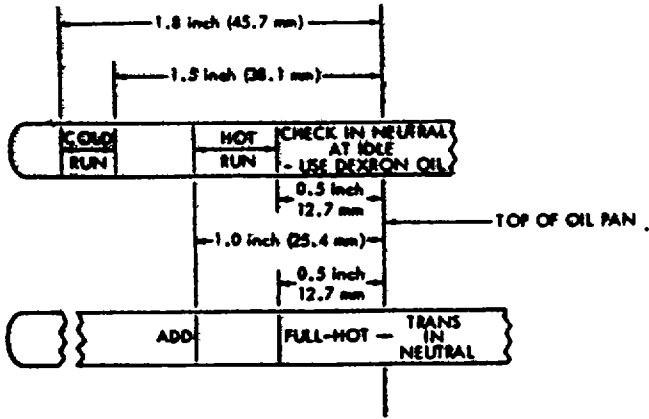

Fig. 3-1. Dipstick markings (AT 545)
(1) Earlier models use a dipstick marked FULL and ADD (fig. 3-1). Later models use a dipstick marked COLD RUN
(3) Cold Check. Run the engine until the oil temperature reaches 60-120°F (16-49°C). With the engine idling and the transmission in neutral, wipe the dipstick clean and check the oil level. If the oil level registers in the COLD RUN band, the quantity of oil in the transmission is operating temperature (160-200°F; 71-93°C) is reached. (Refer to fig. 3-1 for dipstick markings.) If the oil level registers on or below the bottom line of the COLD RUN band, add oil to bring the level within the band. If the oil level registers above the COLD RUN band, drain oil to bring the level within the band. Then operate the vehicle and make a Hot Check when normal operating temperature is reached.
mission in neutral, wipe the dipstick clean and check the oil level. If the oil level registers in the HOT RUN band or between ADD and FULL, the oil level is satisfactory to continue operation of the vehicle. (Refer to fig. 3-1 for dipstick markings.) If the oil level registers on or below the bottom line of the HOT RUN band or below the ADD line, add oil to bring the oil level within the band.